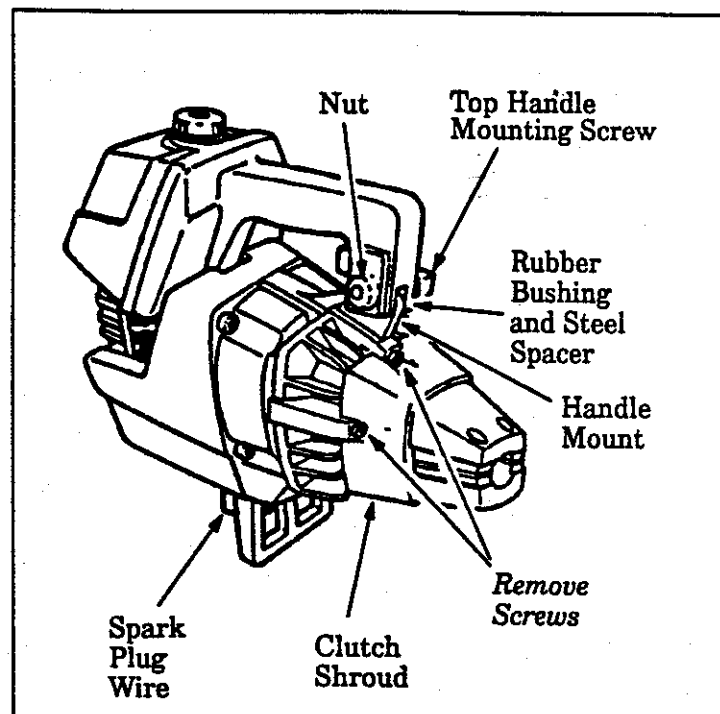

Figure 27
1. Disconnect Spark Plug Wire. Figure 27.
2. Remove the Top Handle Mounting Screw and Nut, and remove the steel Spacer from the Rubber Bushing on the Handle Mount. Figure 27.
3. Remove the four clutch shroud screws with the small hex wrench provided. Figure 27.
4. Separate the Clutch Shroud from the Engine. Figure 27.